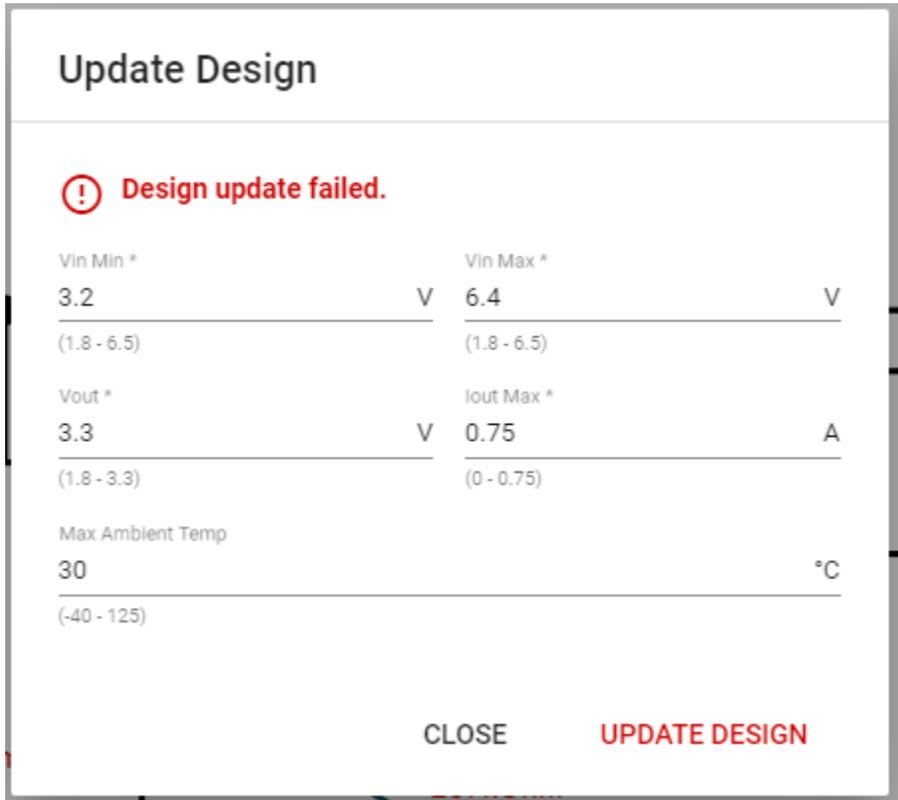

Figure 3. Error Message That the Input Voltage Is Too Low
- V_{IN} from 3.2 V to 6.4 V, $I_{OUT_MAX} = 0.75$ A and $V_{OUT} = 3.3$ V in the TPS62840 WEBENCH Power Designer model (Figure 3).